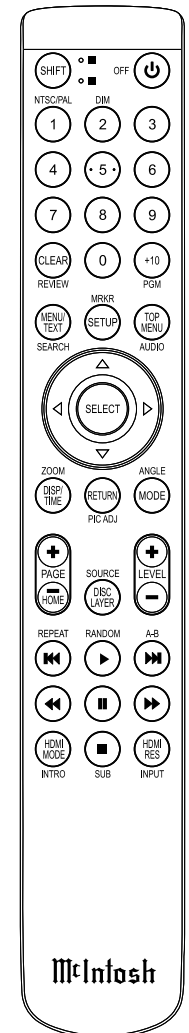

Figure 21
3. The Text Display Mode may be canceled by pressing the DISP/TIME Push button on the Remote Control. Refer to figure 21.
4. The various Time Modes may be displayed by pressing the DISP/TIME Push button on the Remote Control. Refer to figure 21. For additional information on the Time Display Modes refer to "Display Modes" on page 20.
Using the Remote Control, press the ▶▶ (Fast Forward) or ◀◀ (Reverse) Push-button to search back and forth rapidly through a Track on a disc. To return to normal playback release the same ▶▶ (Fast Forward) or ◀◀ (Reverse) Push-button. Refer to figure 21.